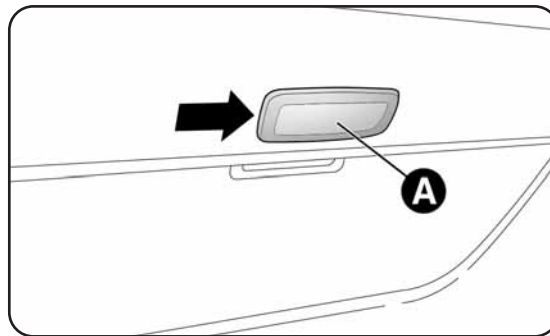

fig. 30
- work in the point shown by the arrow and remove light A-fig. 30;